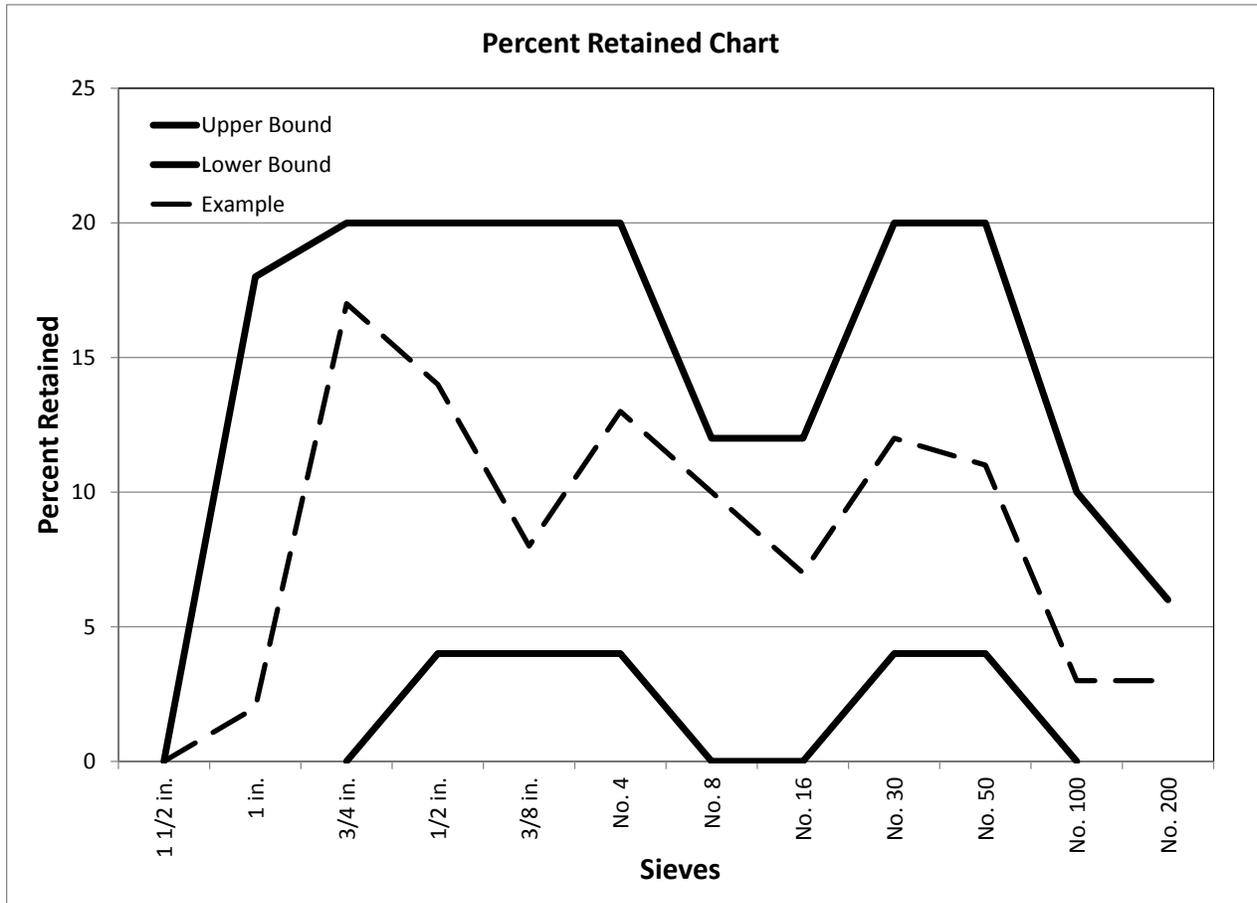

Figure 1—Combined Percent Retained Chart
- The combined percent retained for each sieve must be within the upper and lower boundaries shown in Figure 1.
- 6.1 *Percent Retained Chart*—Create the Percent Retained Chart (Figure 1) by plotting the combined percent-retained (y-axis) vs. the sieve sizes (x-axis).